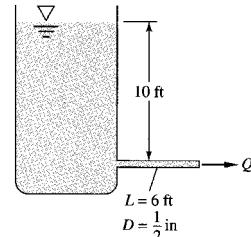

Fig. P6.19
- 6.19** An oil (SG = 0.9) issues from the pipe in Fig. P6.19 at  $Q = 35 \text{ ft}^3/\text{h}$ . What is the kinematic viscosity of the oil in  $\text{ft}^3/\text{s}$ ? Is the flow laminar?